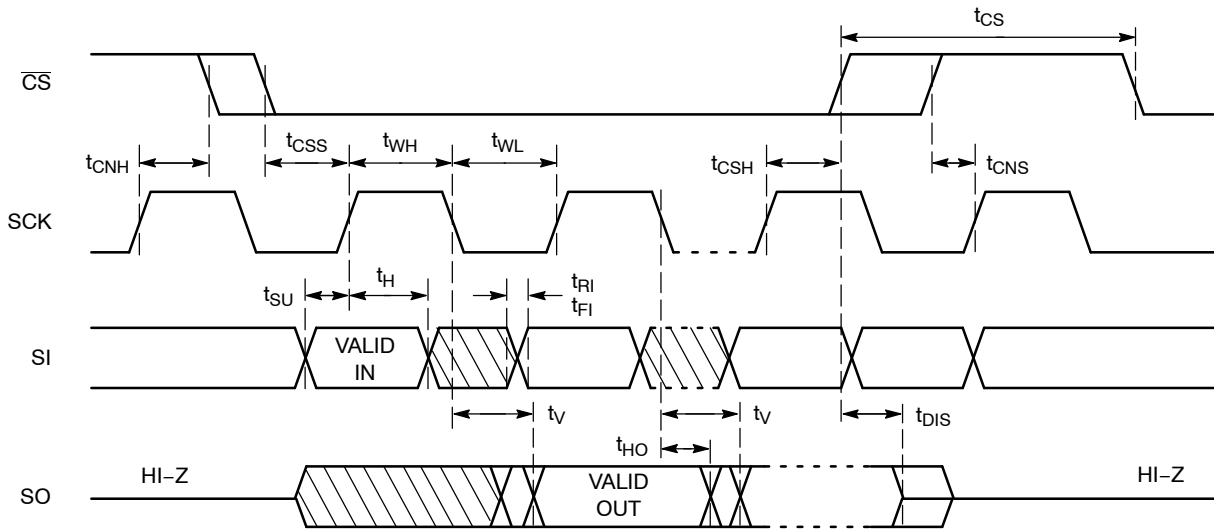

Figure 2. Synchronous Data Timing
7. **All Chip Select (CS) timing parameters are defined relative to the positive clock edge (Figure 2). t_{CSH} timing specification is valid for die revision E and higher. The die revision E is identified by letter "E" or a dedicated marking code on top of the package. For previous product revision (Rev. D) the t_{CSH} is defined relative to the negative clock edge (please refer to data sheet Doc. No. MD-1128 Rev. D).**
After a high to low transition on the $\overline{\text{CS}}$ input pin, the CAT25640 will accept any one of the six instruction op-codes listed in Table 7 and will ignore all other possible 8-bit combinations. The communication protocol follows the timing from Figure 2.